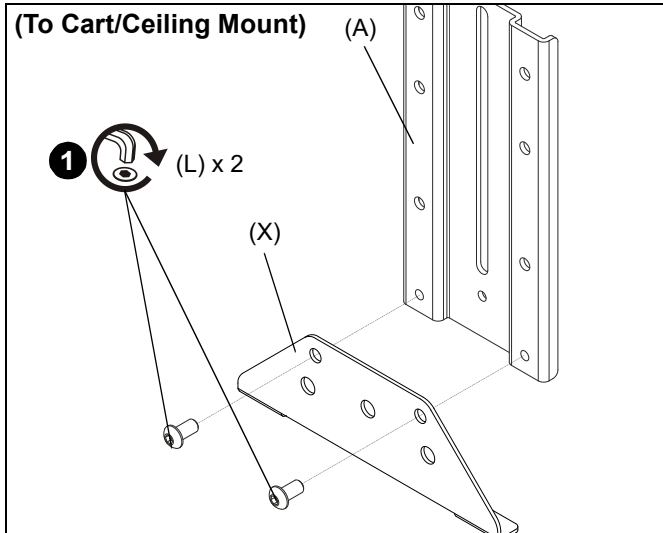
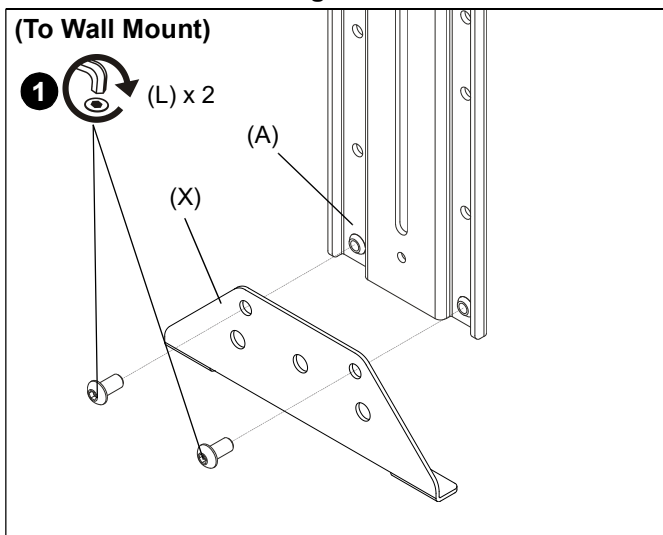

Figure 1
Figure 2
1. Attach attachment bracket (X) to upright bracket (A) using two 1/4-20 x 1/2" button head machine screws (L). (See Figure 1) or (See Figure 2)